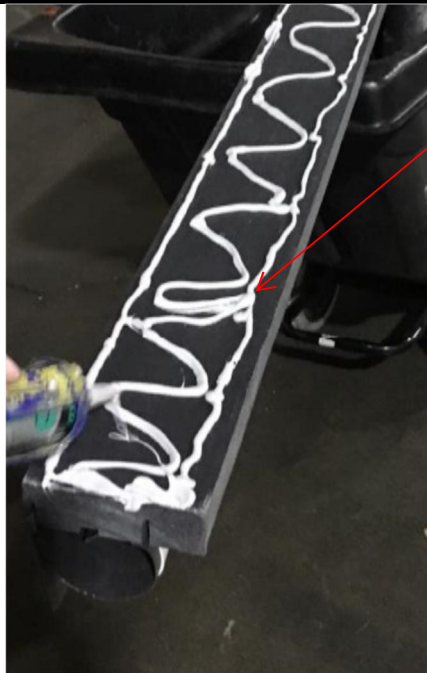

Figure 12
- a. Starting with either the left or right hand side - Caulk back of bulb seal composite board as down both back side edges and a zig-zag pattern in between as shown in Figure 12.
- a. Caulk back of bulb seal composite board as down both back side edges and a zig-zag pattern in between as shown in Figure 12.